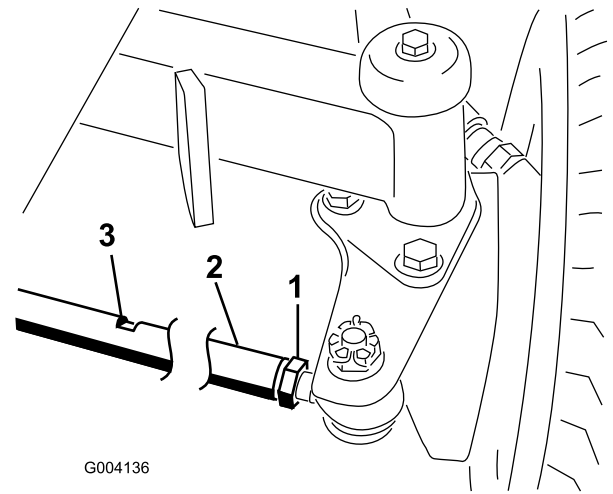

Figure 90
2. Loosen the jam nut on each end of the tie rod (Figure 90).